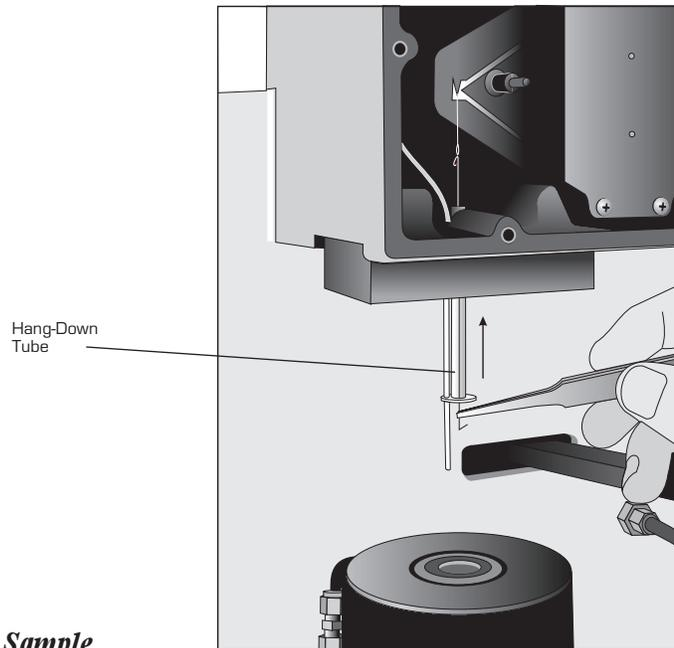

Figure 2.13
5. Carefully insert the bottom of the hang-down wire into the top of the furnace far enough so that you can insert the top of the wire into the hang-down tube without bending the wire (Figure 2.13 on the next page).